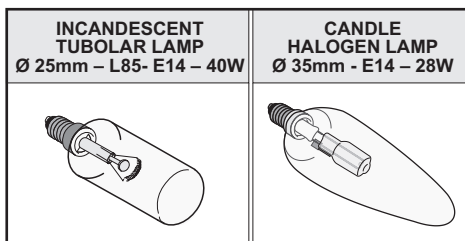

Fig.6B
• Replacing the halogen/incandescent lamps (**Fig.6B**):